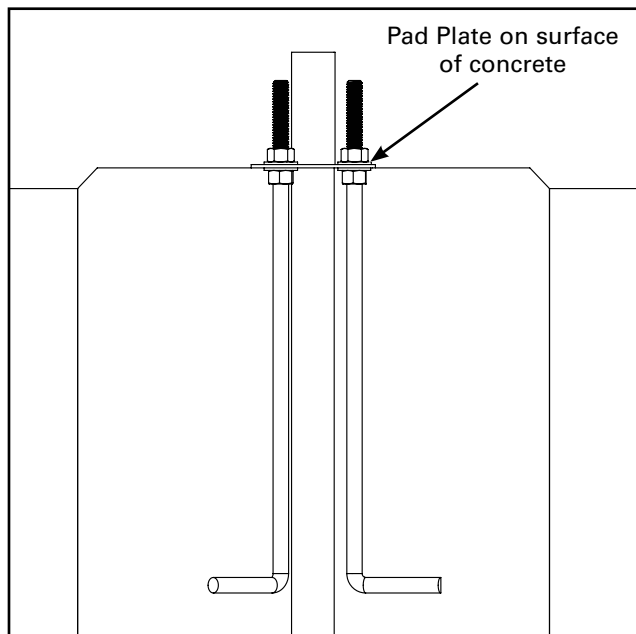

Figure 3.
3. Place anchor bolt assembly (three anchor bolts attached to pad plate with nuts) over conduit and secure for concrete pour. Make sure that the pad plate is flush with the concrete surface, and that the assembly will not be dislodged during concrete pour operations. (Figure 3.) The base has been designed to accept two (2) conduits for daisy chaining when necessary.